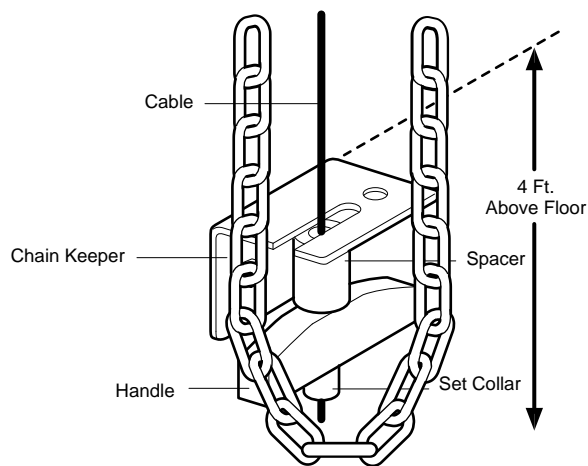

FIGURE 6
10. Insert cable assembly into bracket (Figure 6) and remove slack from the cable by sliding spacer, handle and set collar up the cable until spacer touches underside of bracket. Temporarily tighten set screw in set collar.
12. To engage the gears for manual hand chain operation, pull down on handle and insert chain keeper into bracket (Figure 6).